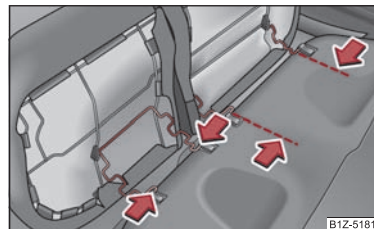

Fig. 62 Removing the seats
- Press the wire clamps in the direction of the arrow ⇒ fig. 62 and remove the seat cushion from its holder.